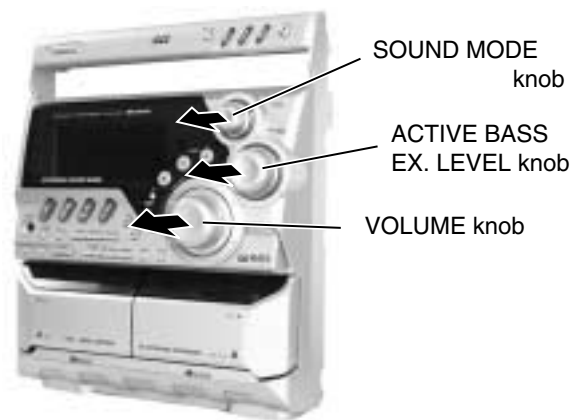

Fig.24
■Removing the front board (See Fig. 24 and 25)